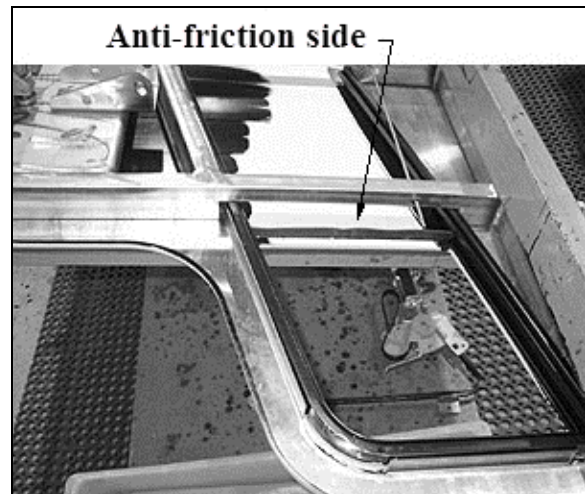

**FIGURE 63: SEALANT APPLICATION**
21. From the inside of the door, apply some sealant Sika 221 between door skin panel and frame and on welding spots as per Figure 63.